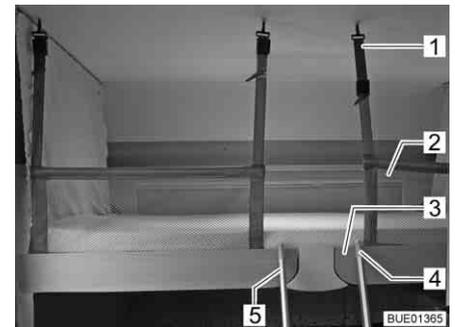

Fig. 77 Pull-down bed complete with applied safety net
The safety net (Fig. 77,2) and the retaining belts are located underneath the mattress in the pull-down bed. Only use the safety net if persons are already in the pull-down bed.
- Attach the retaining belts (Fig. 77,1) to the hooks on the ceiling.
Always use the provided access ladder (Fig. 77,5) to climb up to the pull-down bed.
- Hook access ladder (Fig. 77,5) to the pull-down bed by attaching the two hooks (Fig. 77,4) in the holding bar (Fig. 77,3).
- Hang the access ladder (Fig. 77,5) from the holding bar (Fig. 77,3) on the pull-down bed.